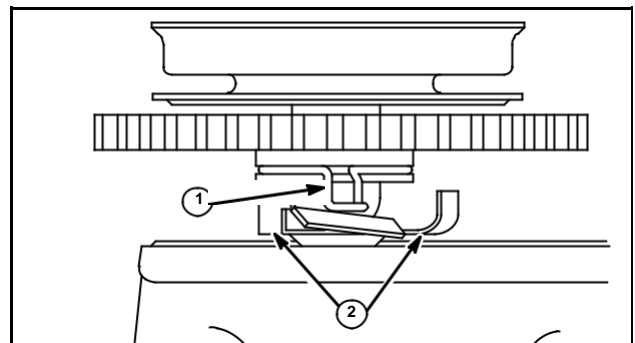

Fig. 28
5. Place gear and pulley assembly on shaft with brake spring (1) between two posts on shaft (2), Fig. 28.